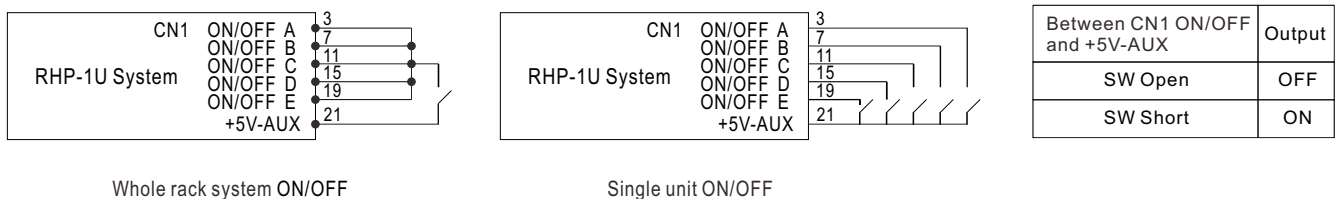

Figure 3-3 Connection of Remote Control
- ⊙ Built-in remote ON/OFF control circuit, refer to Figure3-3 for control methods of single unit or whole rack system.